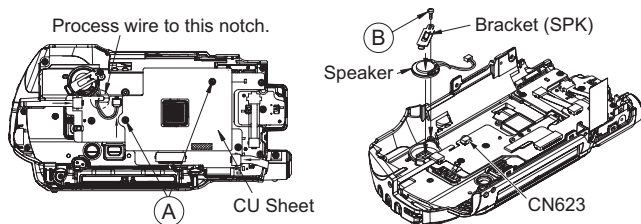
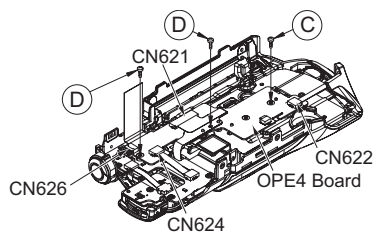
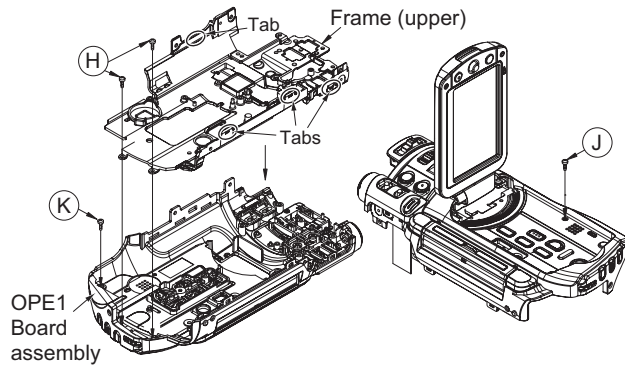

Fig.21
Fig.22
Fig.25
3.5 Removing the upper assembly (See Figure 21, Figure 22, Figure 23, Figure 24, Figure 25)